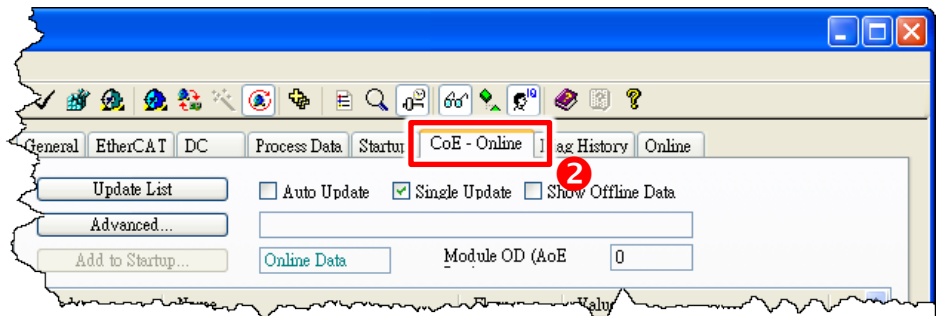

Figure 3-3.4
- ❷ In the right-hand window, click the “**CoE – Online**” tab. (See Figure 3-3.4)
- ❸ **Double-click** the “**Index 8000:19 (AI Range)**” to open the “**Set Value Dialog**” box.
- ❹ Select the **AI range value (e.g., $\pm 5\text{ V}$)** from the “**Enum**” drop down options and then click the “**OK**” button.